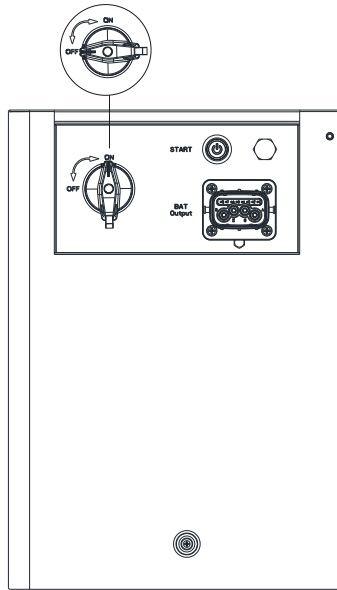

Figure 5.3 Power off the APX M-S3 system
Step 3: Turn off the DC switch of the Master Module(Figure 5.3).